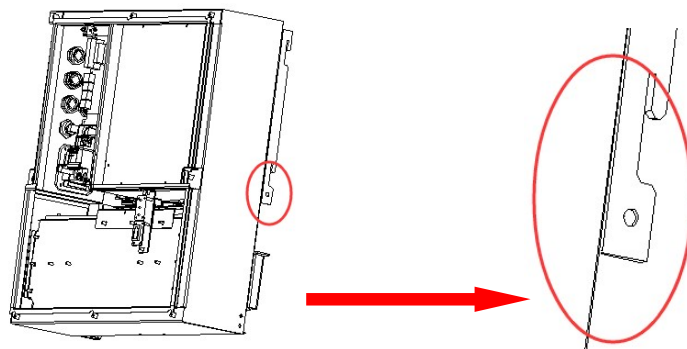

Figure 2.10 Earthing Connecting Position
Step 5: the earthing connecting position for Storion-SMILE-B3 is as shown in Figure 2.10, please use the M4 screw.